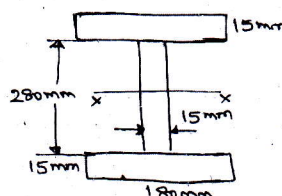

Fig.Q4(b)
- b. A beam with I-section as shown in Fig.Q4(b) is subjected to a bending moment 120 kN-m and a shear force of 60 kN. Determine the bending stress and shear stress distribution along the depth of the section.